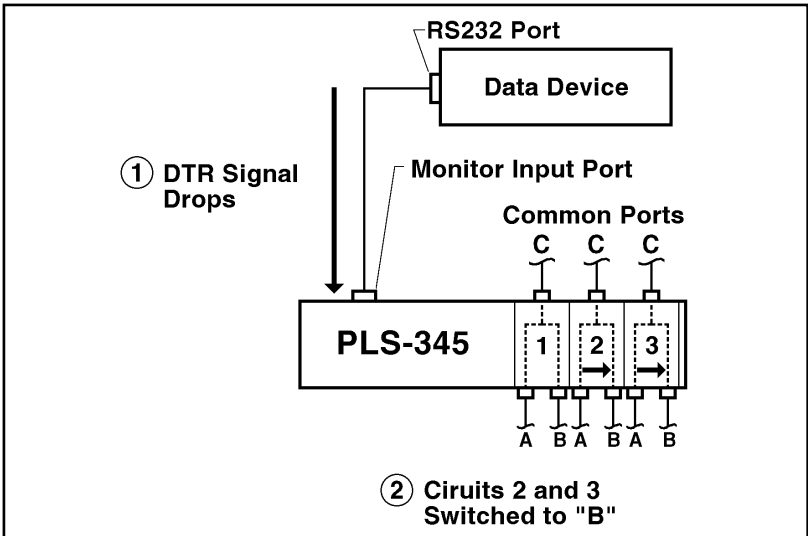

Figure 9.1: Monitoring Signal Drop
1. **Connect Line from Data Device:** Connect a line from the Data Device to the Monitor Input Connector as shown in Figure 9.1.